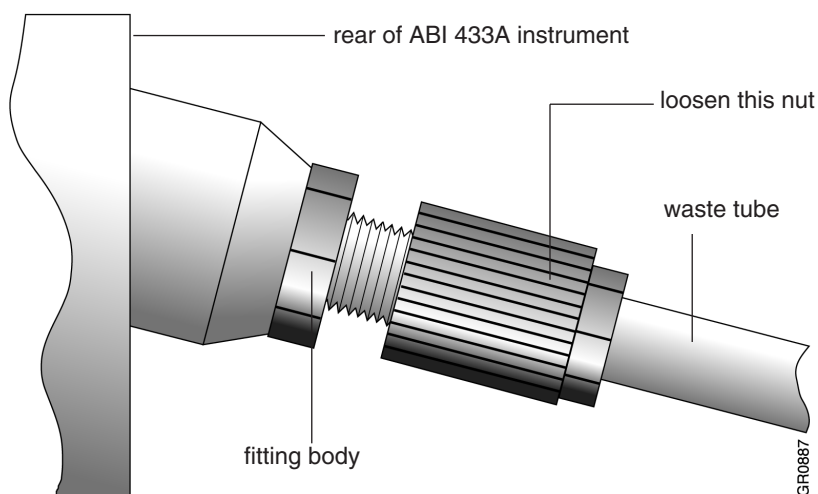

Figure 6-11. Waste port view at rear of ABI 433A instrument
1. Loosen the nut nearest the waste tube by turning the nut with your fingers or with the 13/16-inch wrench (Figure 6-11).